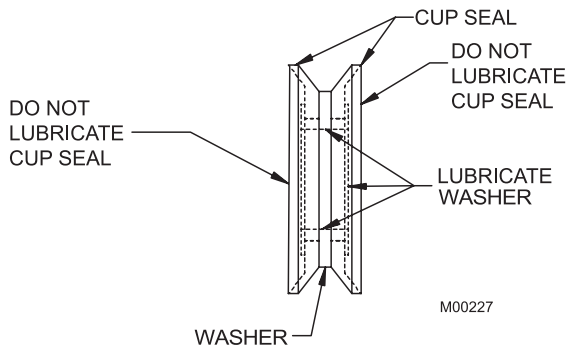

Figure 7-1 Shaft Seal Assembly
2. Assemble the shaft seal by installing the cup seals on the plastic washer. Apply a moderate amount of approved sanitary lubricant (such as Lubri-Film Plus) to the washer. Do not allow any lubricant to come in contact with the bell-shaped rubber portions of the seal (figure 7-1).